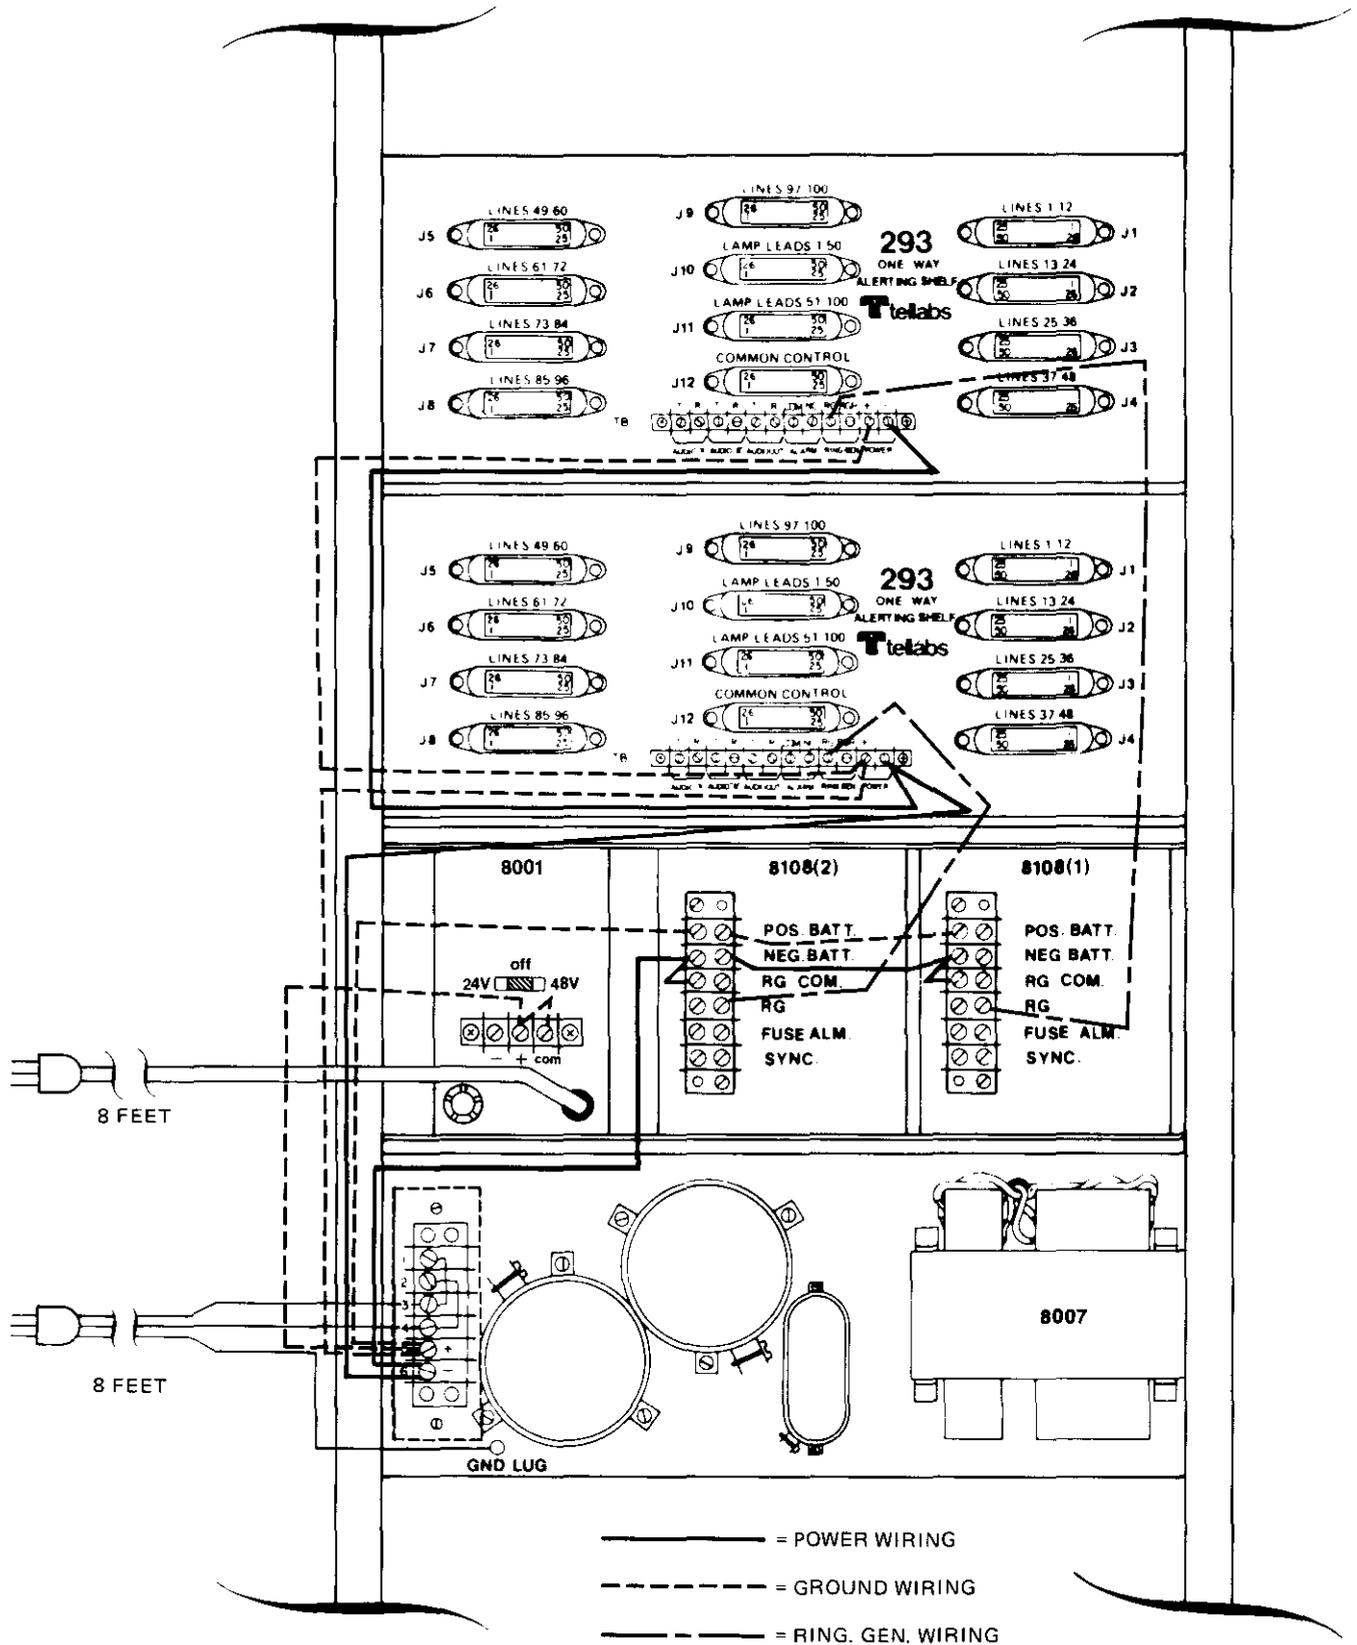

figure 3. Power, ground, and ringing generator wiring
2.09 Before beginning the power wiring procedure, ensure that input power is **not** applied to the power supplies and/or ringing generators. Power must be applied only after all wiring is completed and all modules are properly optioned. Reference to figure 3 will aid in completing this wiring procedure. Wire the System's power connections according to the following list:
2.10 Make the following connections between the 8108 20Hz Ringing Generators and the 293 Mounting Assemblies (reference to figure 3 will aid in completing this wiring procedure):
- Connect the *RG* output terminal of the *first* 8108 to the *RING GEN (RG)* terminal on the *first* 293 Mounting Assembly.
- Connect the *RG* output terminal of the *second* 8108 to the *RING GEN (RG)* terminal on the *second* 293 Mounting Assembly.